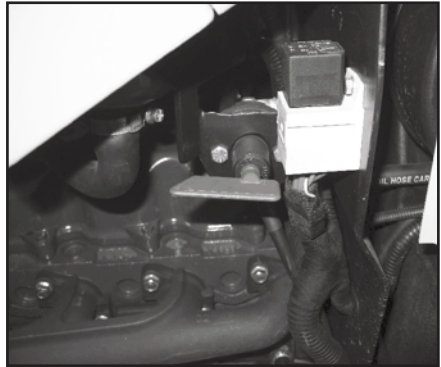

Fig. 5.16.1
- Switch in the "ON" position: electrical system powered (Fig. 5.16.1);